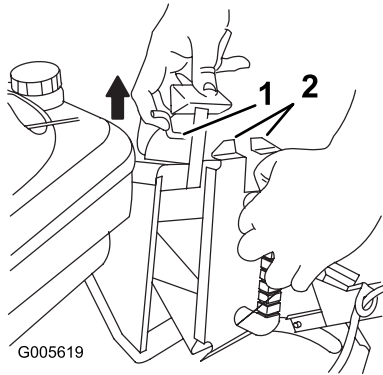

Figure 23
3. Lift the door latch on the door handle and push the top of the plug all the way in while moving the door handle rearward (Figure 23).
4. Release the door latch, allowing it to hook it over the tabs on the plug (Figure 23).